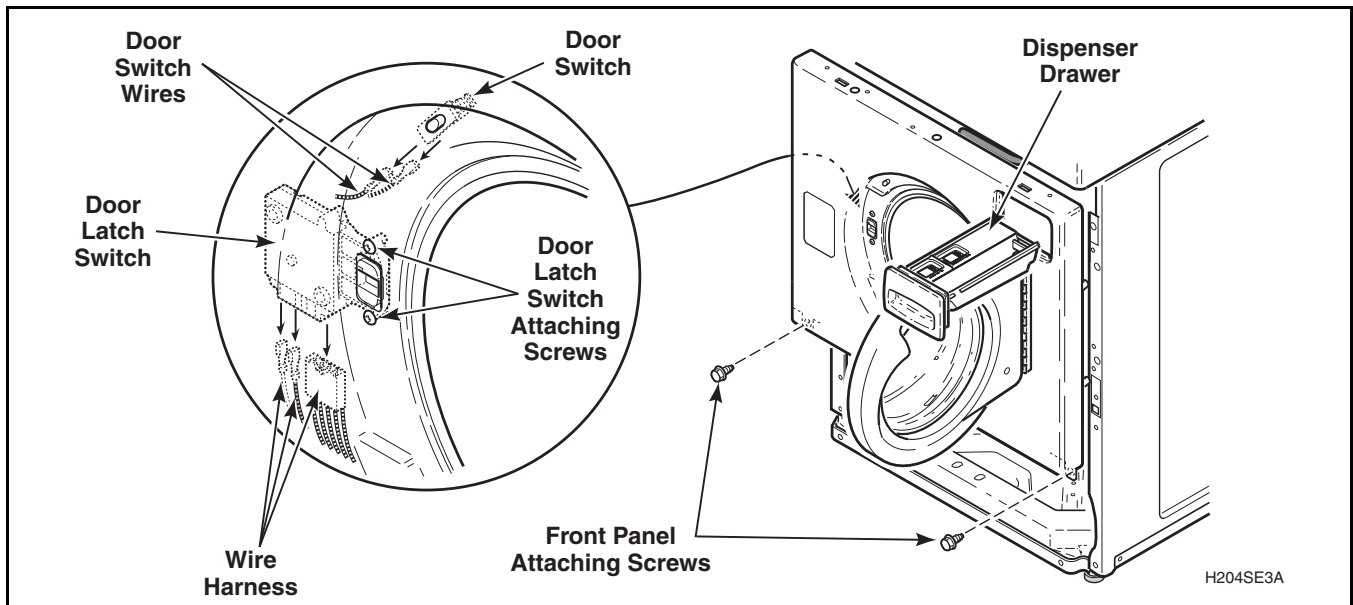

Figure 20
- Remove bottom two front panel attaching screws. Refer to *Figure 20*.
- Unplug wire harness from both the door latch switch and from the door switch. Refer to *Figure 20*. Remove clips holding wire harness and door seal hose along top flange of front panel and remove front panel.